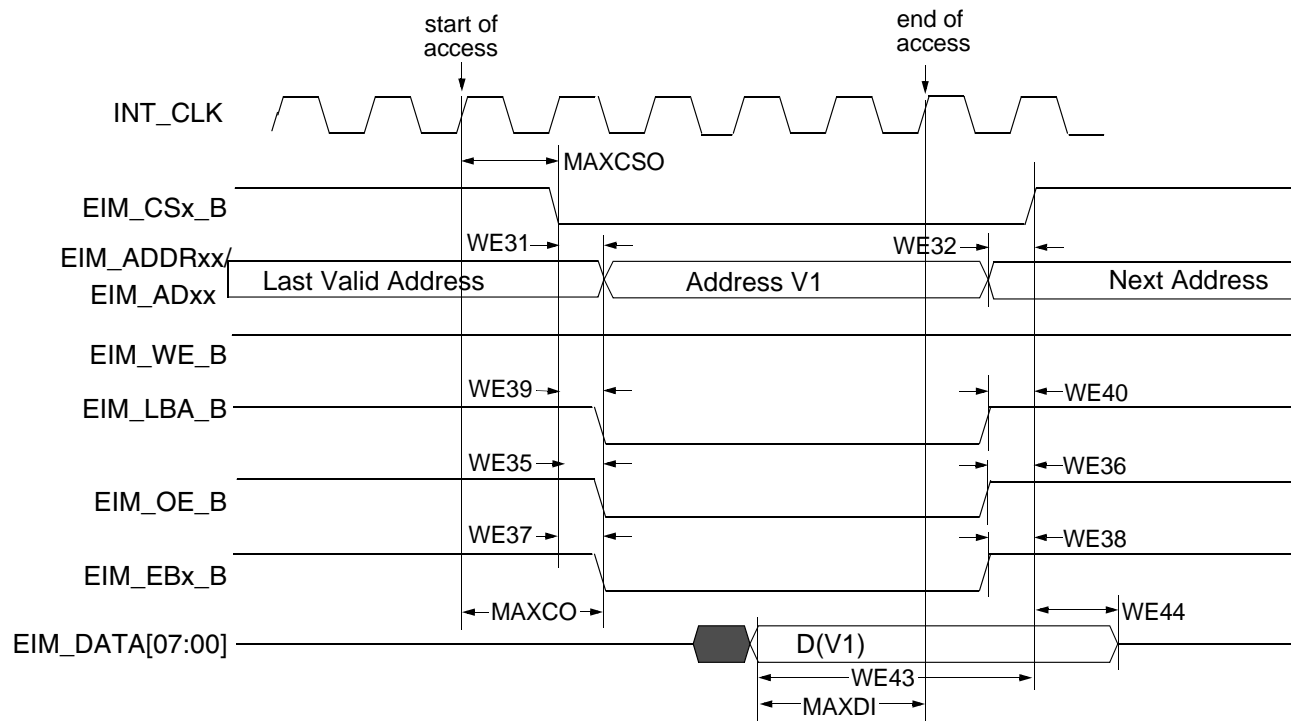
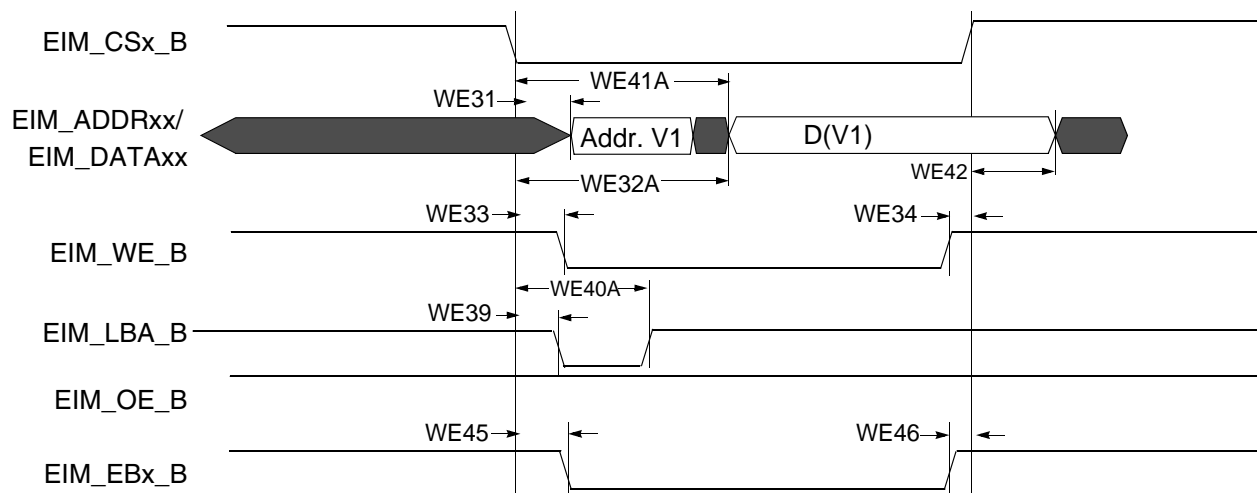
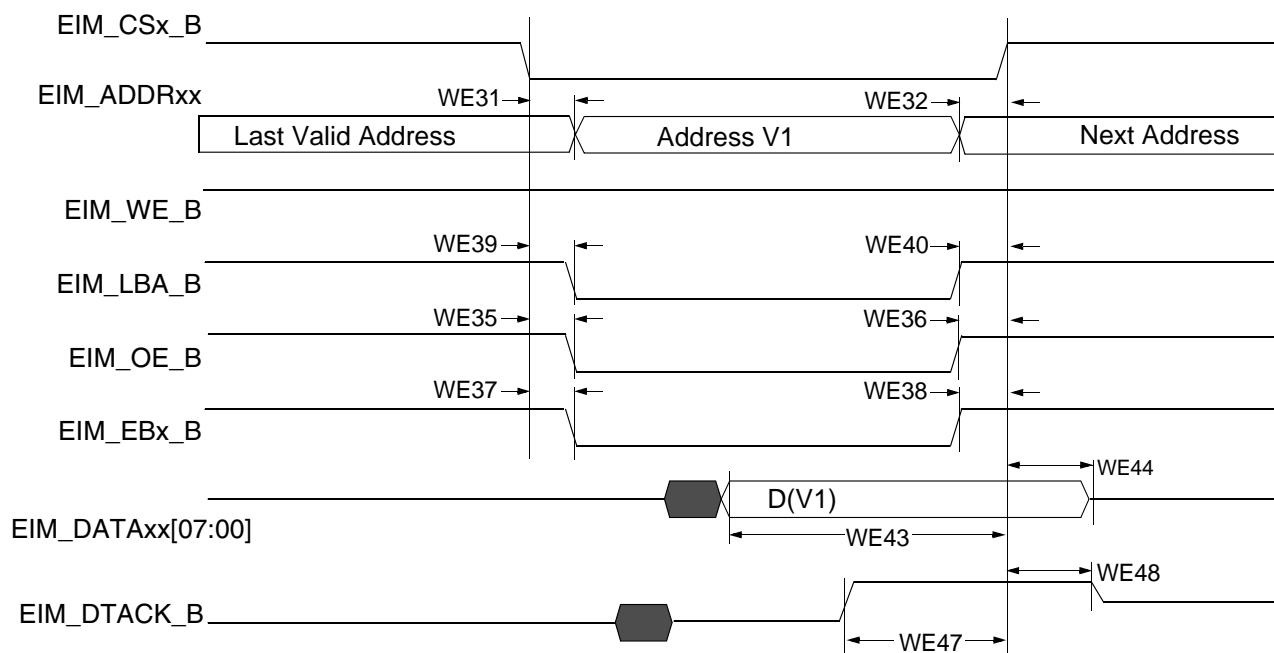

Figure 16. Asynchronous Memory Read Access (RWSC = 5)
Figure 19. Asynchronous A/D Muxed Write Access
Figure 20. DTACK Mode Read Access (DAP=0)
Figure 16 through Figure 20 and Table 37 provide timing parameters relative to the chip select (CS) state for asynchronous and DTACK EIM accesses with corresponding EIM bit fields and the timing parameters mentioned above.
Asynchronous read & write access length in cycles may vary from what is shown in Figure 16 through Figure 19 as RWSC, OEN & CSN is configured differently. See the i.MX 6Dual/6Quad reference manual (IMX6DQRM) for the EIM programming model.